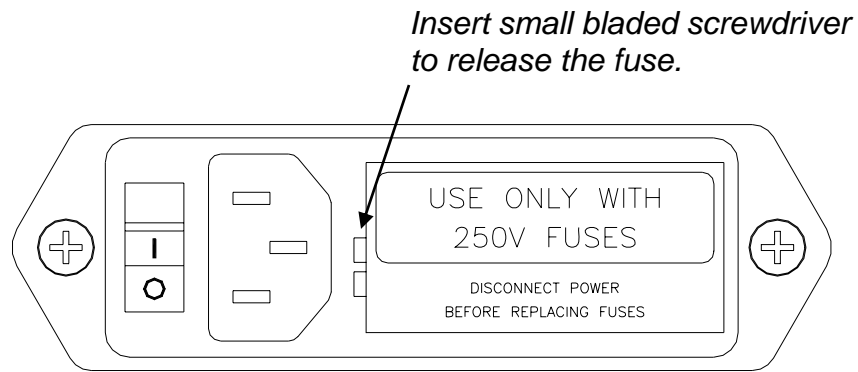

Figure 3-1, Power Entry Module
1. The fuse is located in a holder in the power module unit above the AC receptacle (figure 3-1). At top is a small tab, use a small bladed screwdriver to release the fuse holder.